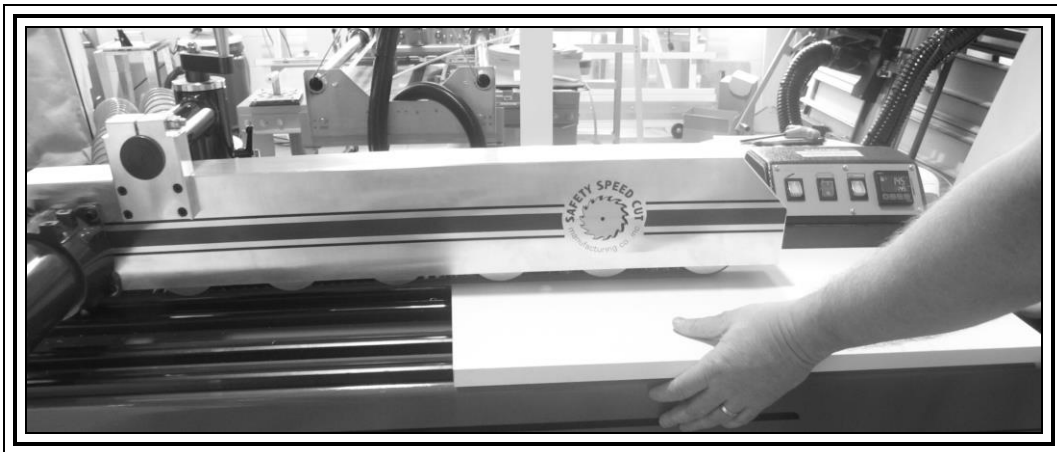

FIGURE 26
- B. Once the machine is at operating temperature *(see section on Operating Temperature), it is ready to start edgebanding. Slide the board along the infeed fence keeping pressure against tape advance roller and the infeed fence, until leading edge of board meets the advanced tape at the pressure roller (**FIGURE 26**). At this point the power feeder will maintain adequate pressure of the panel against the pressure roller. After the board has stopped at the outfeed side of the feeder it must be pulled directly off the end of the machine, rather than lifting it up, so that the trim motors will automatically turn off. **NOTE: It is the movement of the panel against the first rubber roller, which rotates the roller and advances the tape. Failure to keep the panel against the infeed fence and first roller will cause the tape to be short at the front of the panel.**